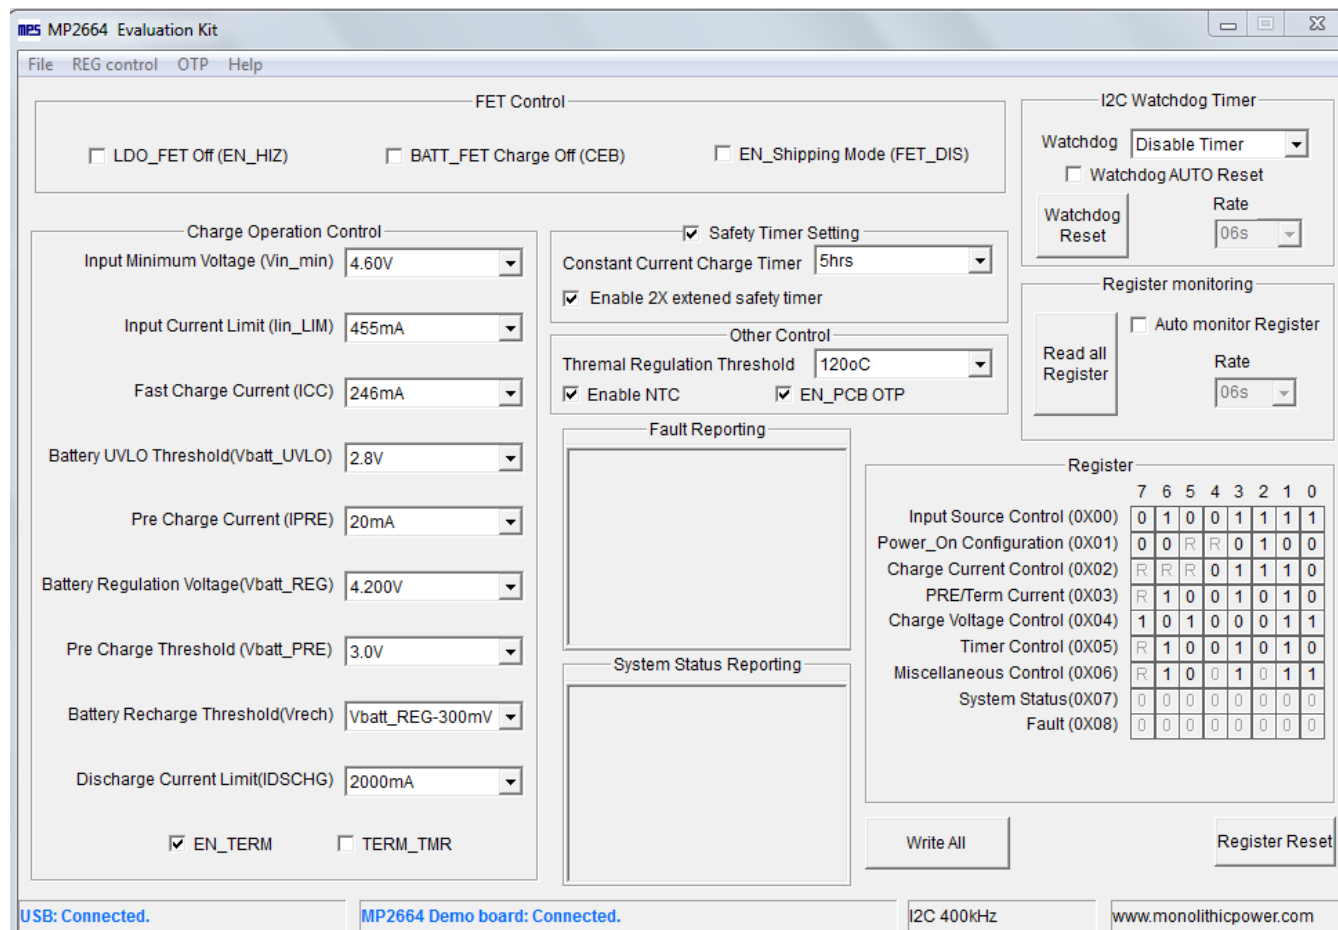

Figure 7: Appearance of USB and MP2664 EVB Board Show Connected
- If connection is successful, both the USB and MP2664 DEMO board statuses are "connected". (See Figure 7).
- 2. Click the "Read All Register" button to read the I²C register values, and the default values are displayed (See Figure 7).